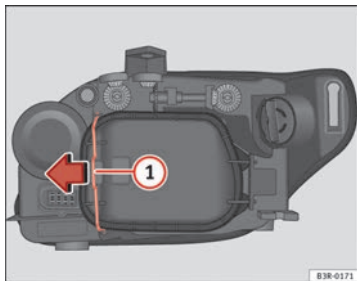

Fig. 211 Dipped beam headlights
Although it is not necessary, previously remove the rigid cover ⇒ Fig. 211 for easier turn signal bulb changes.
- Move the brace ⇒ Fig. 211 ① in the direction of the arrow and remove the rigid cover, separating the brace side and then removing the two tabs from the other end of the cover.